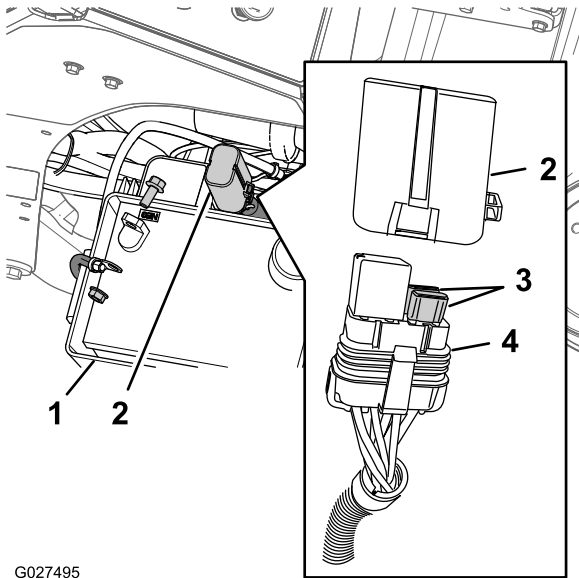

Figure 78
2. Push the tab on the fuse/relay holder and separate the cover from the holder (Figure 78).
3. Pull the fuse from the socket of the fuse/relay holder (Figure 78).
4. Install a fuse of the same type (20 A) into the socket of the fuse/relay holder (Figure 78).
5. Install the cover on to the fuse/relay holder until it locks into place (Figure 78).